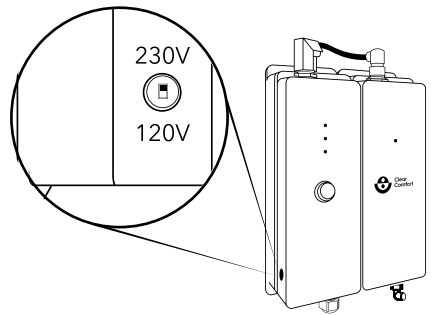

Figure 4: Ballast Electrical Switch
4. If your system is powered by 120V then set the ballast switch on V2.1 Control Unit: Remove plug in the left side of the Control Unit. With a small screwdriver, slide the switch down into the 120V position, according to the Control Unit label. Re-install the plug. See Figure 4.